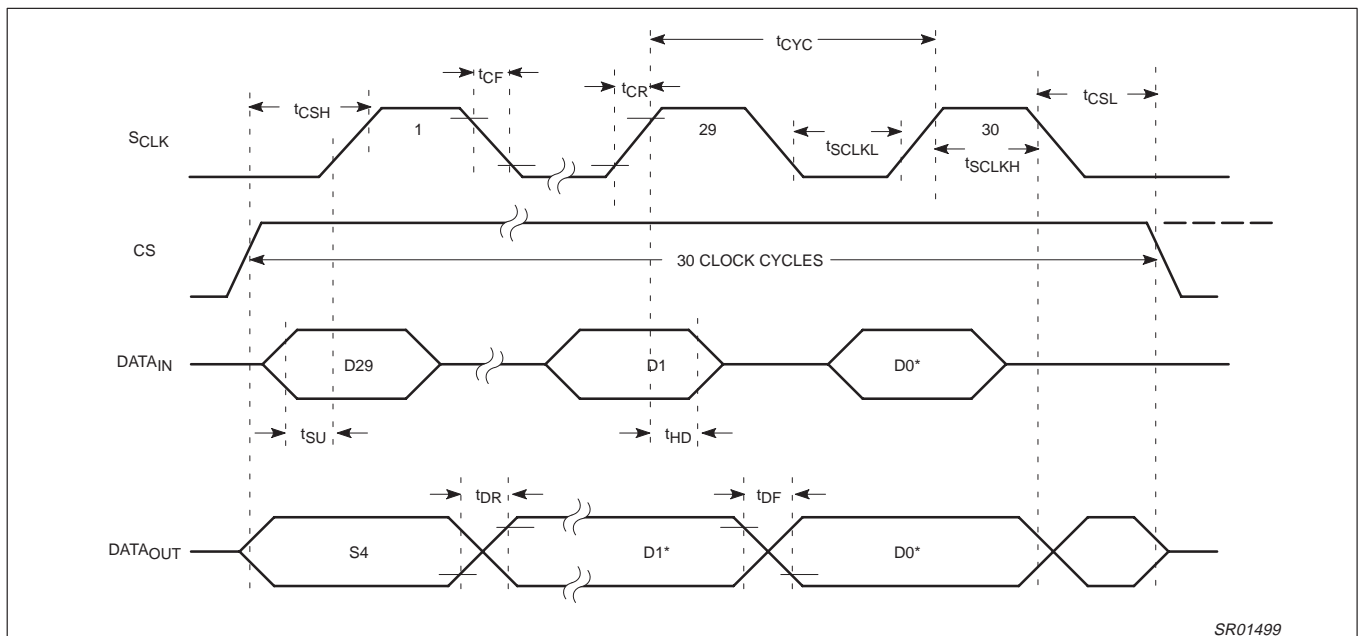
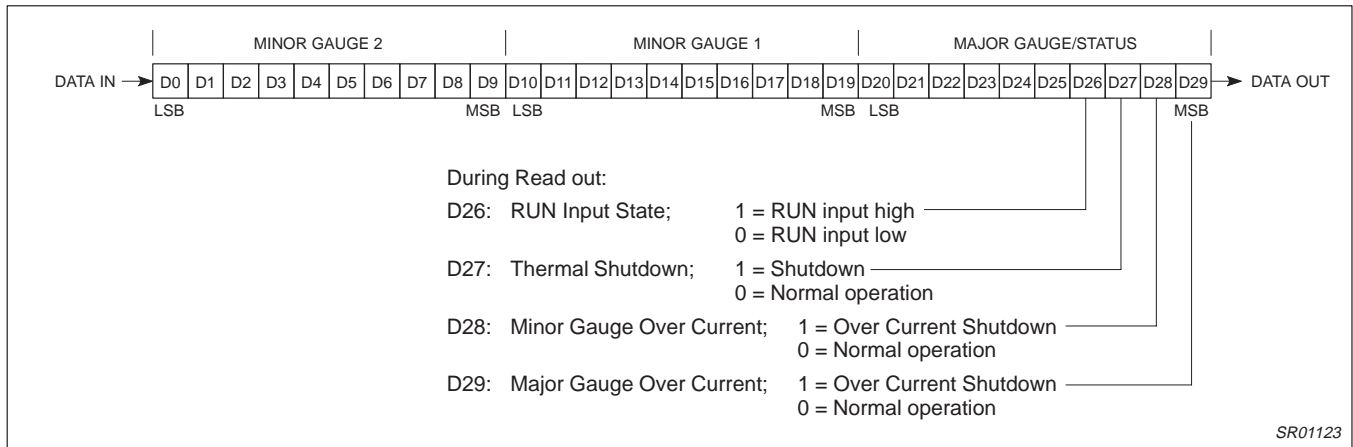

Figure 10. Serial Interface Timing
Figure 11. Internal Shift Register
Figure 4 demonstrates the connections between the STGD, the microcontroller, and optionally additional gauge drivers such as the SGD and DGD. With an active high on the chip select input (CS), data is shifted into the STGD through DATAIN on the rising edge of SCLK. Several gauge drivers may be wired in series using a common chip select and clock line, when more than three gauges are needed. The DATAOUT pins are cascaded to the DATAIN pins of the following gauge drivers. Status information can be returned to the microcontroller via the ST pins of each gauge driver. These are open-drain, active low outputs, which may be wire OR'ed together to signal that a fault, such as a thermal shut down, has occurred within one of the gauge drivers. This pin may be connected to a microcontroller port pin for polling in software, or may be connected to an external interrupt input to cause entry into an interrupt service routine. The STGD, may also pass status information back to the microcontroller serially. The rising edge of chip select loads status information into the shift register for the first four bits that will be shifted out of the STGD by the shift clock. Figure 11 shows the data bits within the shift register. A low on the ST pin signals that one or more status bits have been set in the status register. A high indicates all status bits are reset. The status output bits include minor gauge over current, major gauge over current, thermal shutdown and RUN. Gauge data is captured in latches by the falling edge of the chip select.
Figure 10 demonstrates the serial interface timing referenced in the AC specifications. Figure 11 shows the order of information transfer through the serial interface. On a low to high transition of the CS pin, status information replaces the four most significant bits of data in the shift register and are the first bits shifted out. Output data is changed on the falling edge of SCLK, while input data is captured on the rising edge of SCLK. Major gauge data is loaded first, starting with the most significant bit, followed by minor gauge 1 data then minor gauge 2 data.